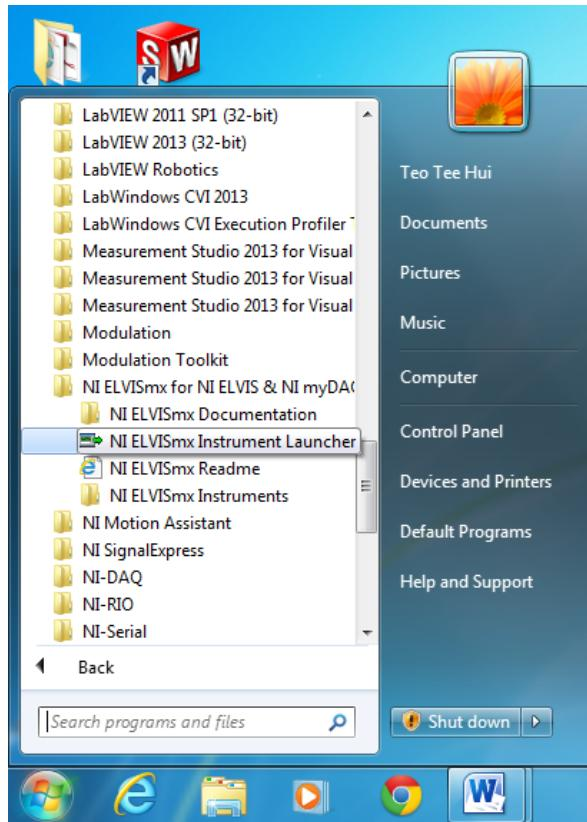
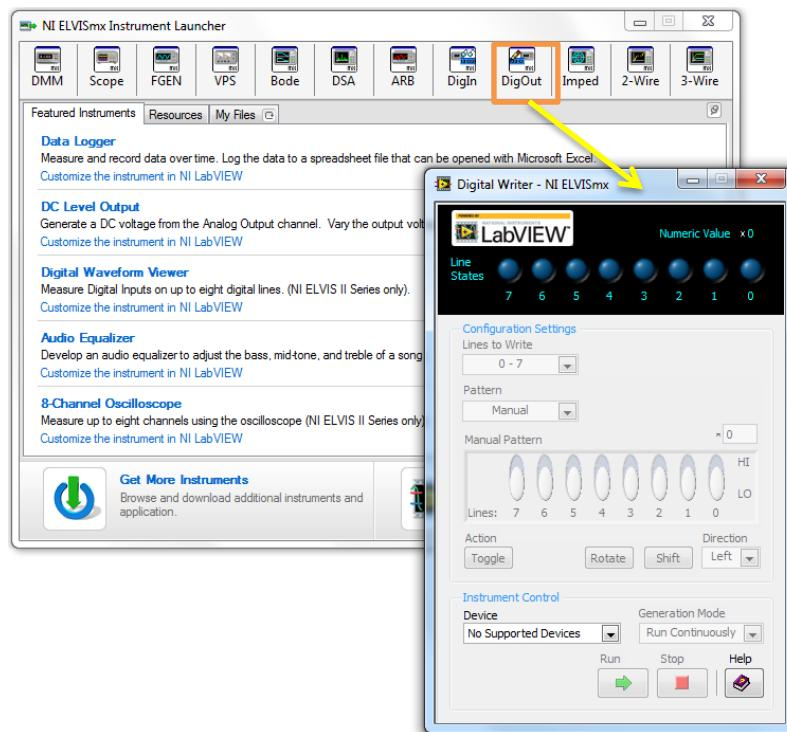

Figure 13: NI ELVISmx Instrument Launcher
Figure 14: NI ELVISmx Instrument Launcher interface and Digital Writer (DigOut)
- Launch **NI ELVISmx Instrument Launcher** on the computer (National Instruments -> NI ELVIS for NI ELVIS & NI myDAQ -> NI ELVISmx Instrument Launcher, Figure 13), and click on **NI ELVISmx Digital Writer (DigOut)**, Figure 14.
3. Testing Results of NAND Gate using Digital Inputs / Outputs using Digital Writer (DigOut), the detail image of Digital Writer is shown in Figure 14.